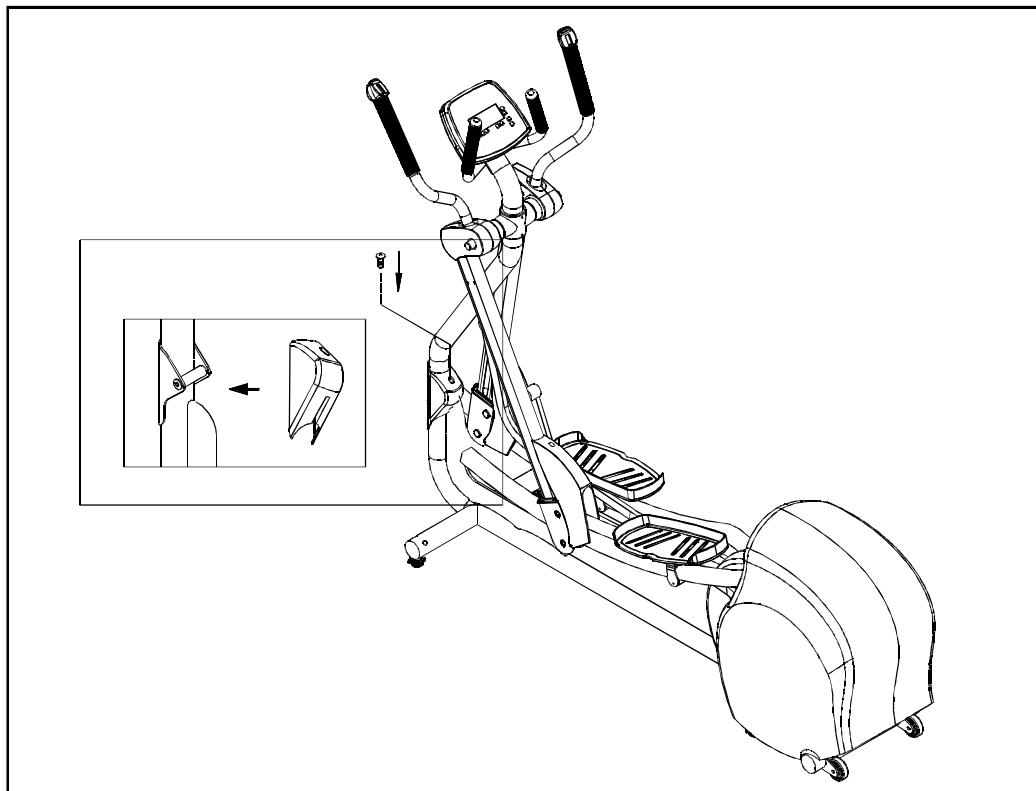

Fig.6
7. Tighten the pivot enclosure with the screw provided. (see Fig. 6)